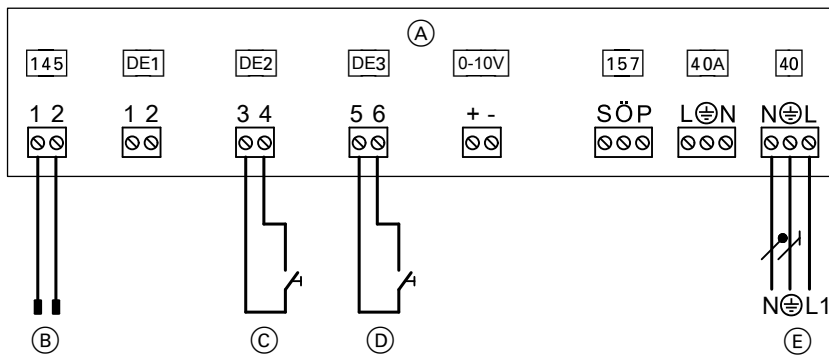

Fig. 52
- To EA1 extension as shown in Fig. 52